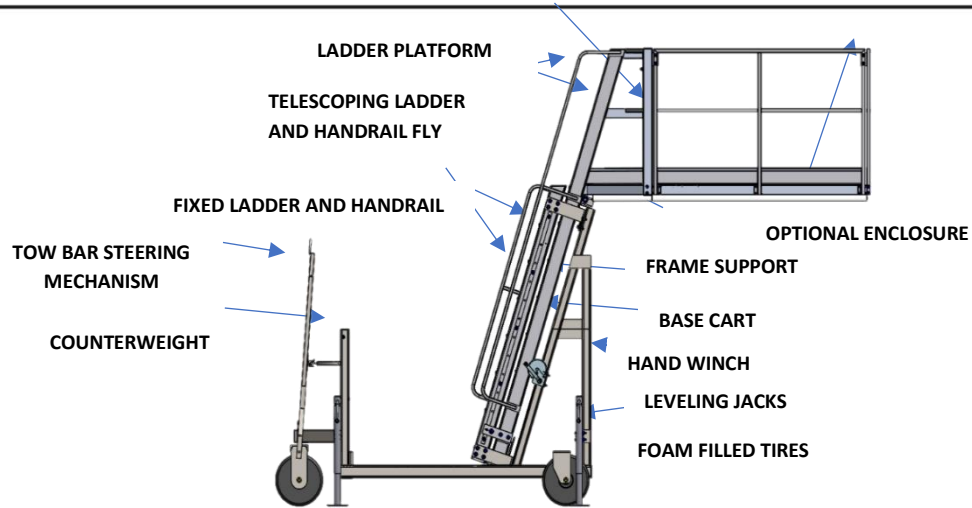

FIGURE 2-1 BASIC TC10 INLINE CART
b) MECHANICAL EQUIPMENT**i) BASIC TC10 INLINE CART See **FIGURE 2-1** below.**